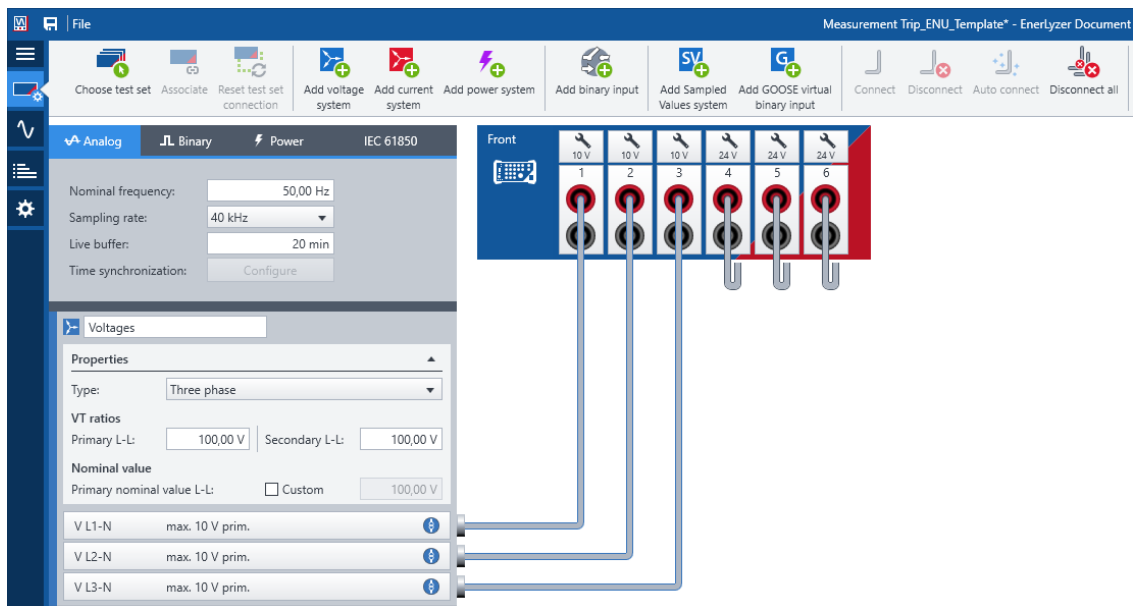

Figure 7: Test set configuration and analog measurement for voltage-based method.
- b. Connection of analog measurement channels, as exemplarily shown in Figure 7